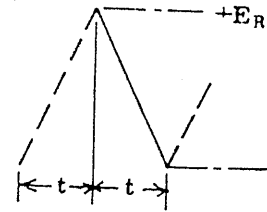

Fig. 4-4
When the constant current that is charging capacitor C is expressed as I, and the voltage comparator is set at -E and +E, and time interval t from +E to -E at the output of integrator is set as shown in Fig. 4-4, the following formula (1) can be obtained
Since oscillation frequency f is $t/2$ as shown in Fig. 4-4, formula (1) is expressed as follows: